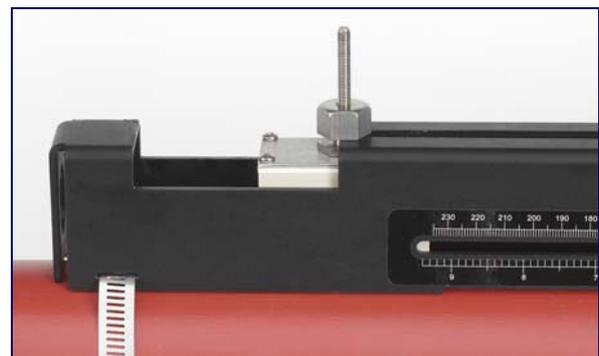

Figure 2.10
9. Following the method used to insert the downstream transducer, carefully lower the transducer assembly through the rectangular opening until the slots in the side of the transducer clamp align with the edges on the top of the guide rail (Figure 2.10).